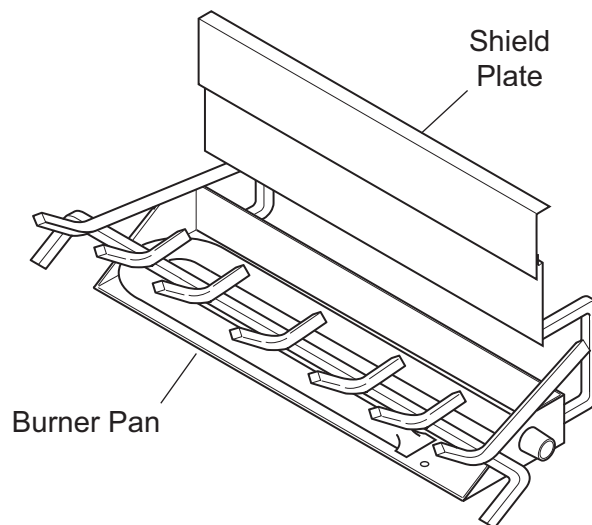

Figure 35 - Sliding Shield Plate Down Back of Burner Pan
1. Slide shield plate down back of burner pan. *See Figure 35.*